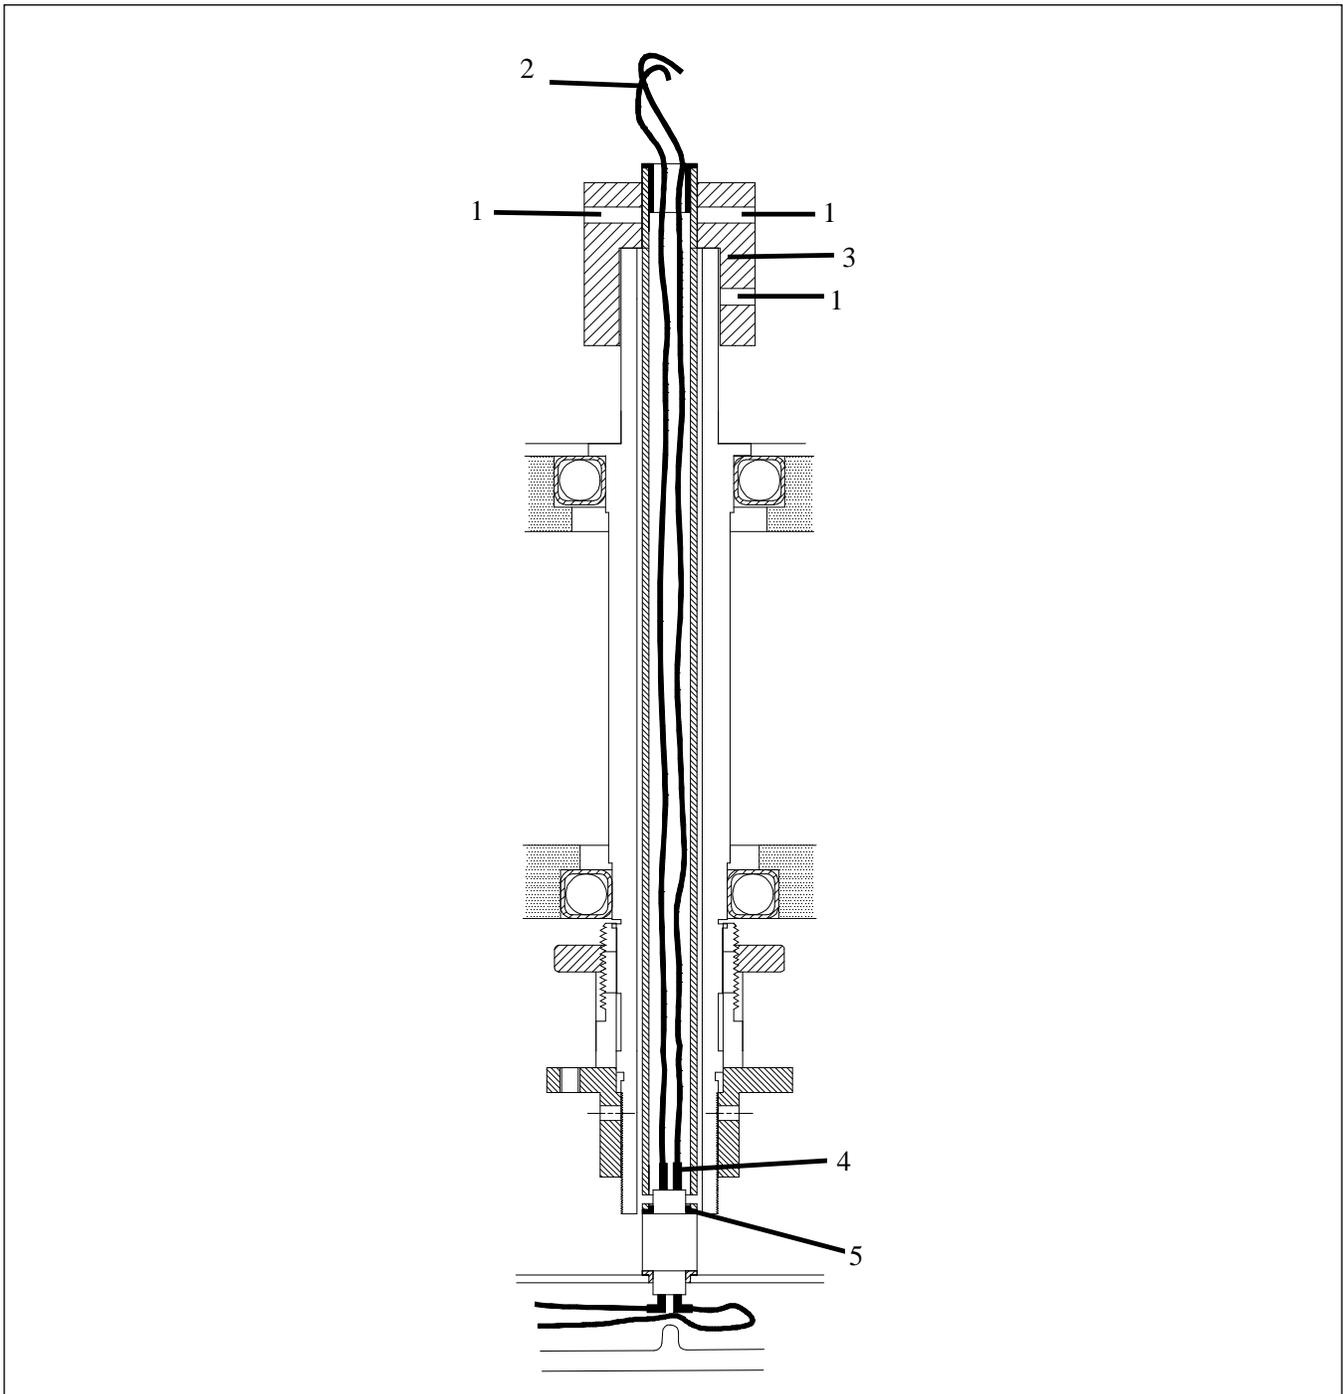

Figure 12. Power Shaft Assembly
8. See Figure 12. Loosen the two upper set screws (1) in the side of the PRC adapter collar that secures the power shaft and PRC adapter collar together. This allows the power shaft assembly to drop so that the two small set screws (5) that hold the PRC to the shaft are accessible. Loosen the two set screws, located 180 degrees apart, and then pull the PRC out of the plastic bushing found at the end of the shaft.
4. See Figure 12. Push the power shaft assembly back up inside the collar. Retighten the two set screws found in the side of the collar to secure the shaft to the collar.